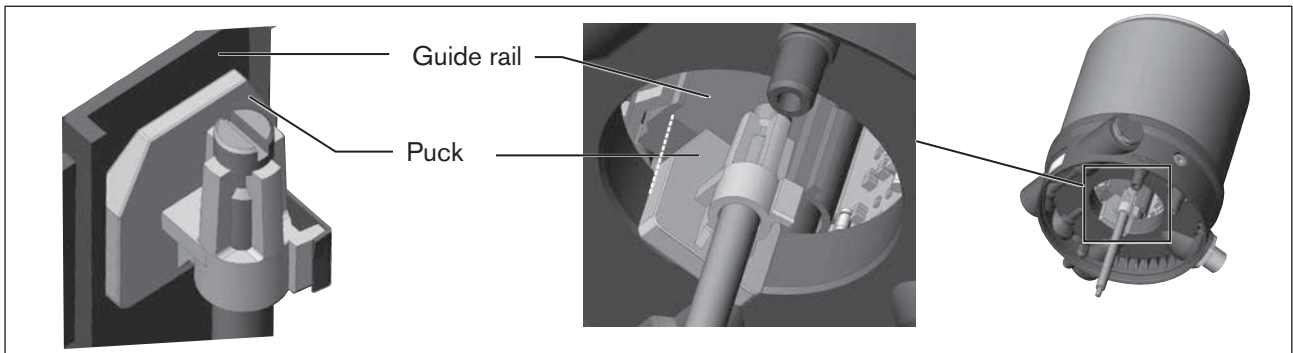

Figure 9: *Aligning the puck*
1. the puck can be inserted into the guide rail of the control head (see "Figure 9") and